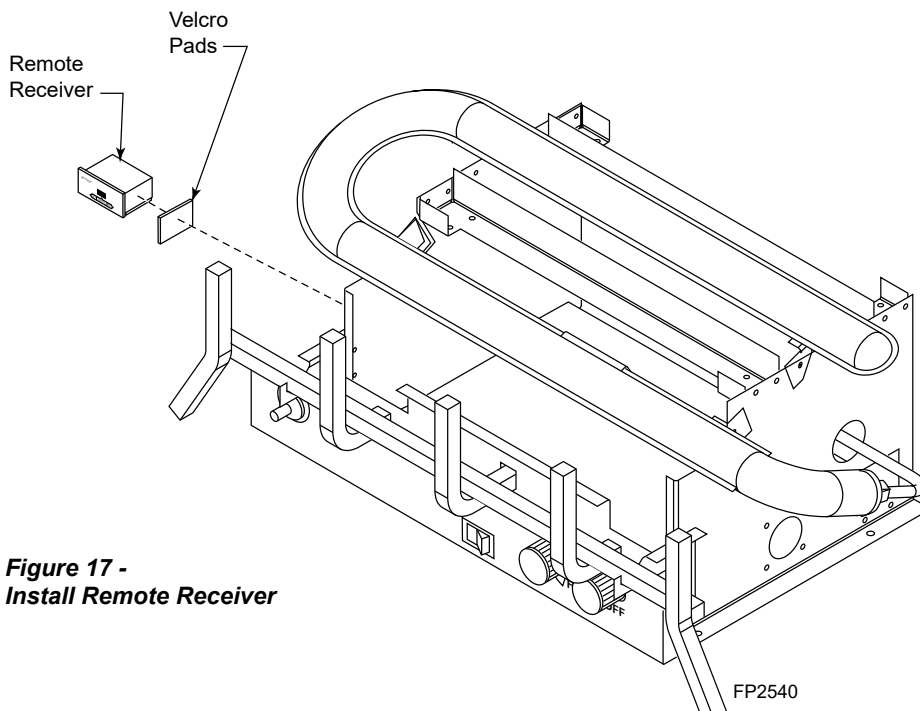

Figure 17 - Install Remote Receiver
2. Stick velcro pads with self-adhesive backing to the right side of remote receiver and to the left side of the unit. *Figure 17*